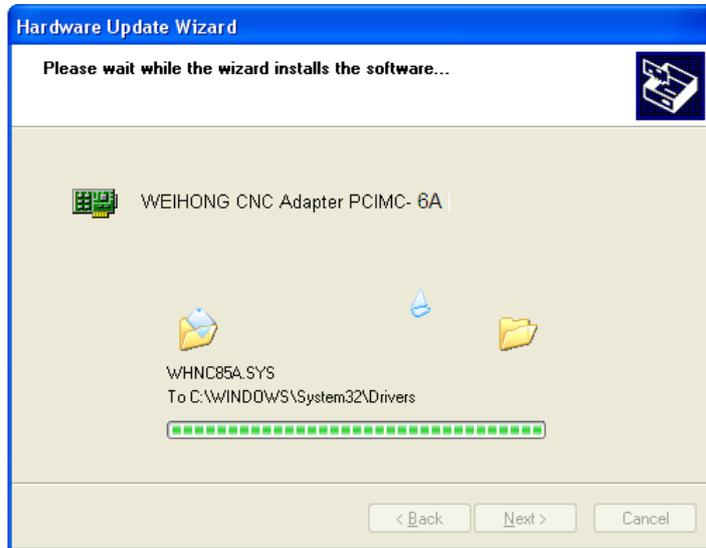

Fig. 3-7 Updating the driver
- 8) Click [OK] to go back, and then click [Next] to start updating the driver software. The progressing picture is shown as Fig. 3-7.